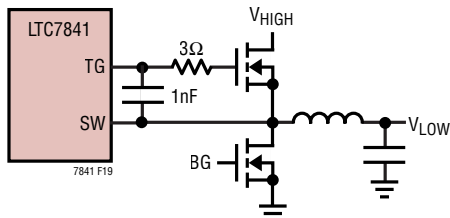

Figure 18. Filter for TG Traces > 25mm
2. The TG traces from the controller IC to the gate of the external MOSFET should be kept as short as possible to minimize the parasitic inductance. This inductance can cause voltage spikes that can potentially exceed the ABS Max rating of the drivers and damage them. A 3 Ω resistor and 1nF capacitor can be used to filter these spikes as shown in Figure 18. If the TG traces are longer than 25mm, this filter network must be used on both TG1 and TG2. The 1nF capacitor should be placed as close to the TG/SW pins as possible.